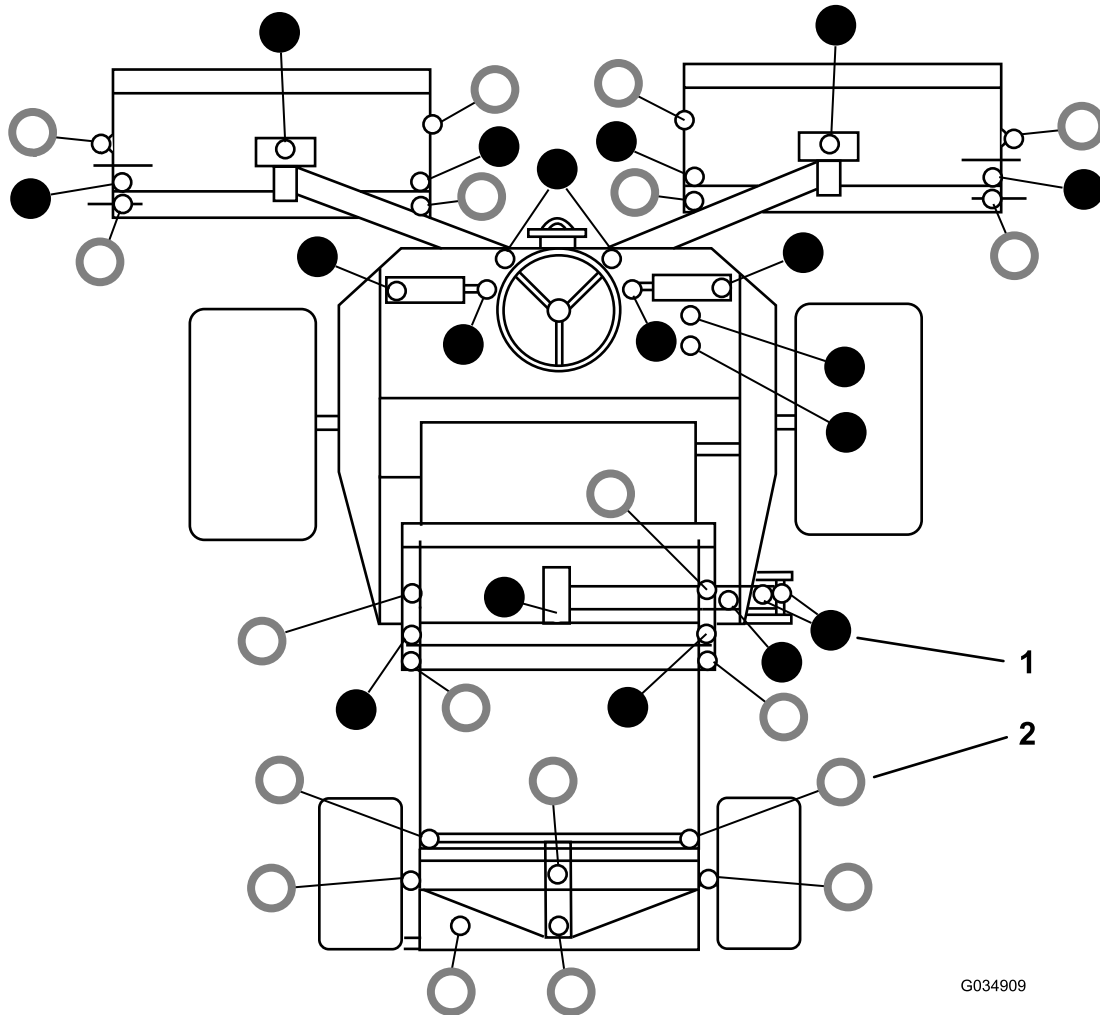

Figure 48
- Refer to Figure 48 for the grease fitting locations.